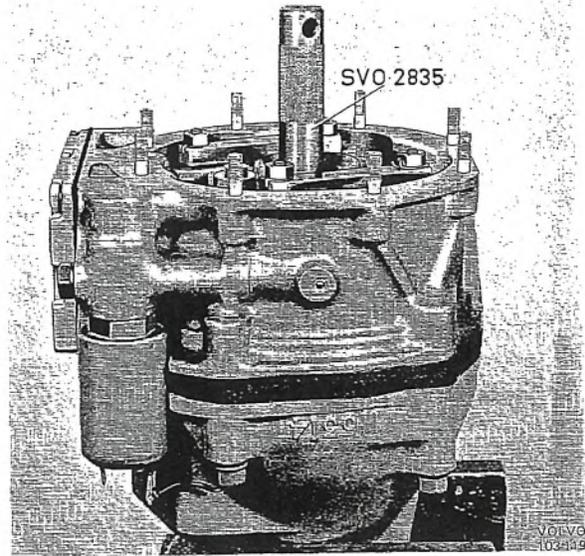

Fig. 4-50. Installing front casing
5. Install the brake ring on the front casing. Place the front casing on the rear one. Fit washers and nuts, see Fig. 4-50. Note that both the copper washers should be fitted on the upper bolts. Tighten the bolts a little at a time until they are tightened evenly all round.